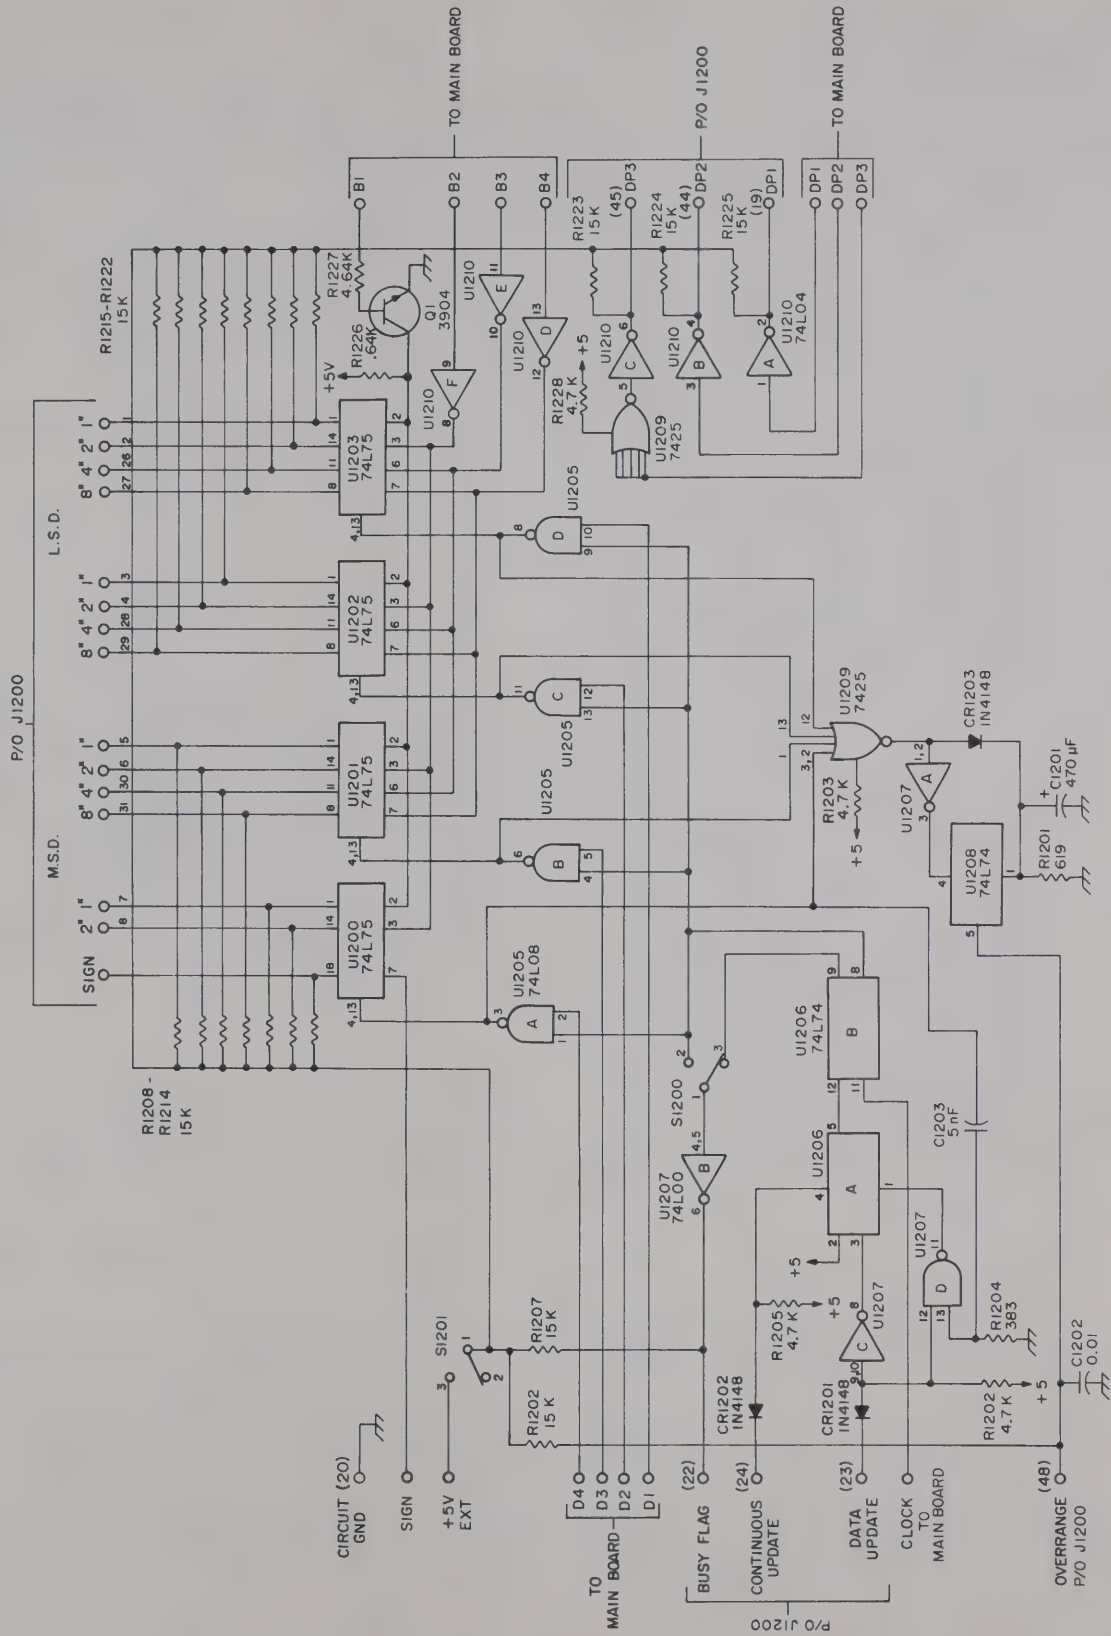

Figure 7-1. BCD Schematic Diagram
4. Refer to the BCD schematic, Figure 7-1, and remove jumper wire S1200-1, 3.
4. Refer to the BCD schematic, Figure 7-1, and remove jumper wire S1201-4, 5 to disconnect the referral +5-volt supply.
7-12. **Theory of Operation.** The BCD printer output option is basically a serial-to-parallel converter with associated control circuitry. It processes the serial output data from U700 in the 3028B into parallel BCD format. Four Type D MOS flip-flops in U1201, U1202, U1203, and U1204 are the storage registers which convert digit strobes D1, D2, D3, and D4; sequent strobes B1, B2, B3, and B4; and the polarity sign data. AND gates in U1204 control the update of the storage registers. A schematic diagram is shown in Figure 7-1.